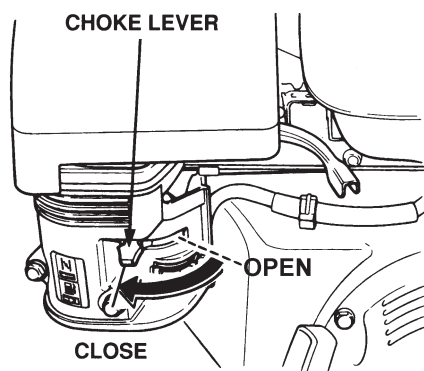

Figure 11. Choke Lever
2. To start a cold engine, move the choke lever (Figure 11) to the **CLOSED** position.